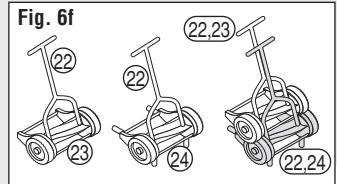

Fig. 6f
- Glue Push Mower Frames 2x (22) to Wheels/Blades (23) and Wheels/Blades (24). Glue Mower Assembly (22,23) behind Mower Assembly (22,24) (Fig. 6f).